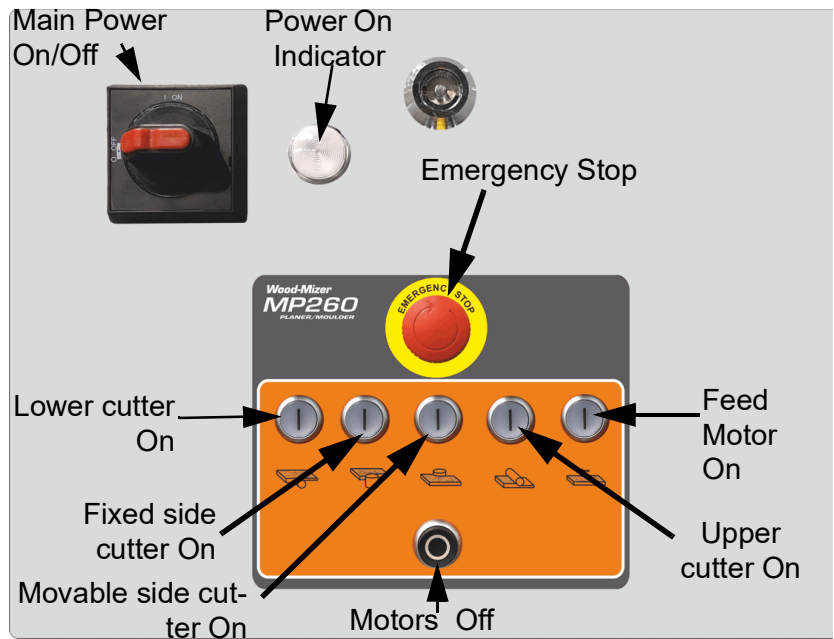

FIG. 3-4
1. Turn the Main Power to On; check that the Power On Indicator lights. See FIG. 3-4 .